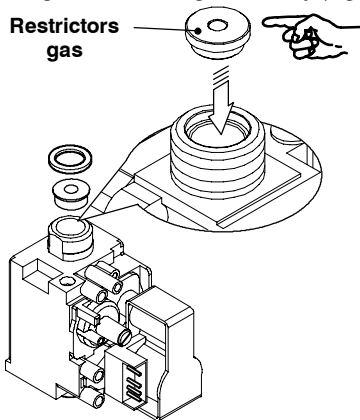

Fig. 8.4
- 5 Carry out the conversion for the type of gas, replacing the restrictors gas correctly (Fig. 8.4).